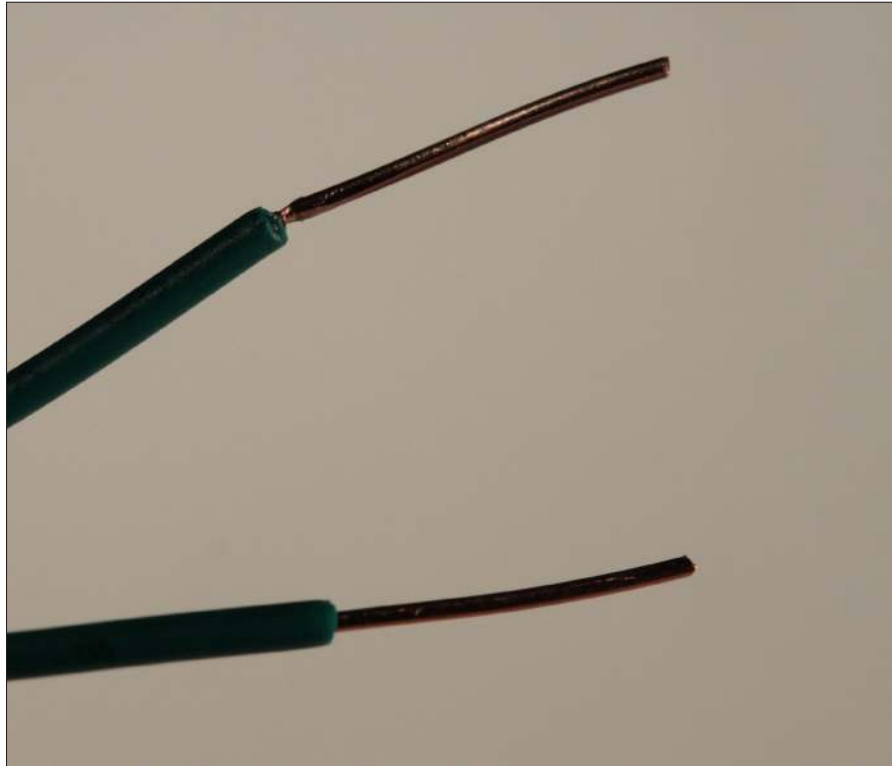

Figure 3-4: The wire on the top was stripped with wire cutters; the one on the bottom was stripped with a wire stripper.
- ◆ **Wire strippers:** Figure 3-4 shows two pieces of wire that I *stripped* (removed the insulation from). I stripped the one on top with a set of wire cutters and the one on the bottom with a set of *wire strippers*. Notice the crimping in the one at the top, at the spot where the insulation ends? That was caused by using just a bit too much pressure on the wire cutters. That crimp has created a weak spot in the wire that may eventually break.